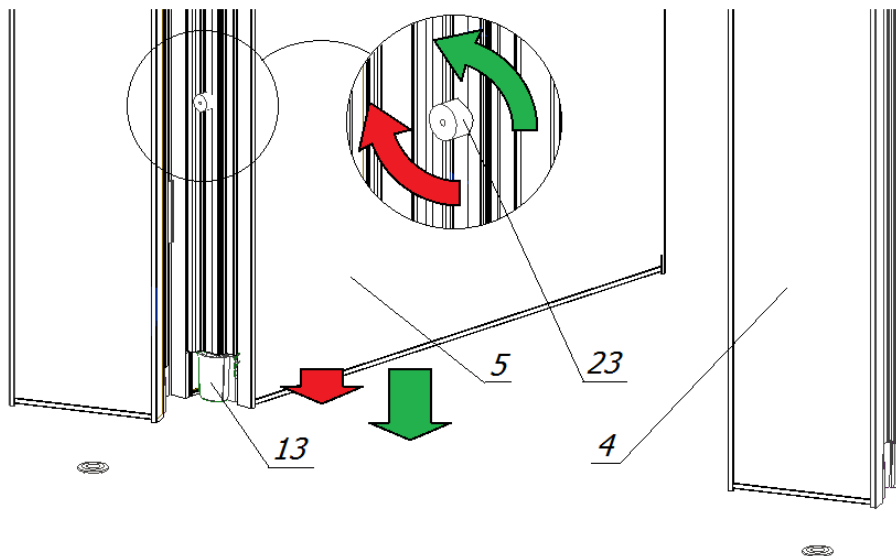

Fig.12. Adjusting the pressure of the door sealing beam
- **RIGHT, increasing the pressure** to the ground (marked with a colored **green vertical arrow** in Fig.12)
- **LEFT, reducing the pressure** to the ground (marked with a colored **shorter red arrow** in Fig.12)